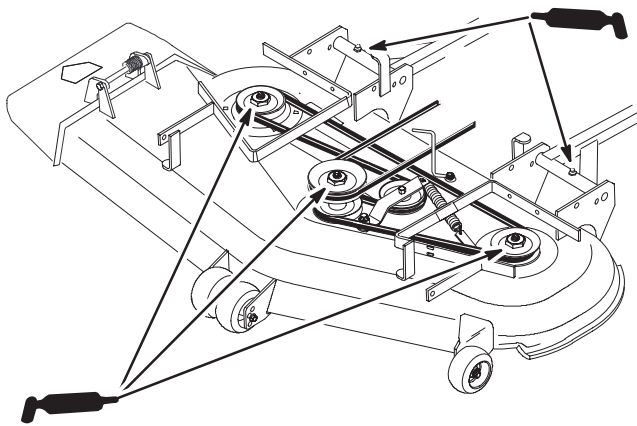

Figure 44
2. Grease the fittings on the three spindle bearings until grease comes out lower seals (Fig. 44).
3. Grease the fittings on the push arms(Fig. 44).